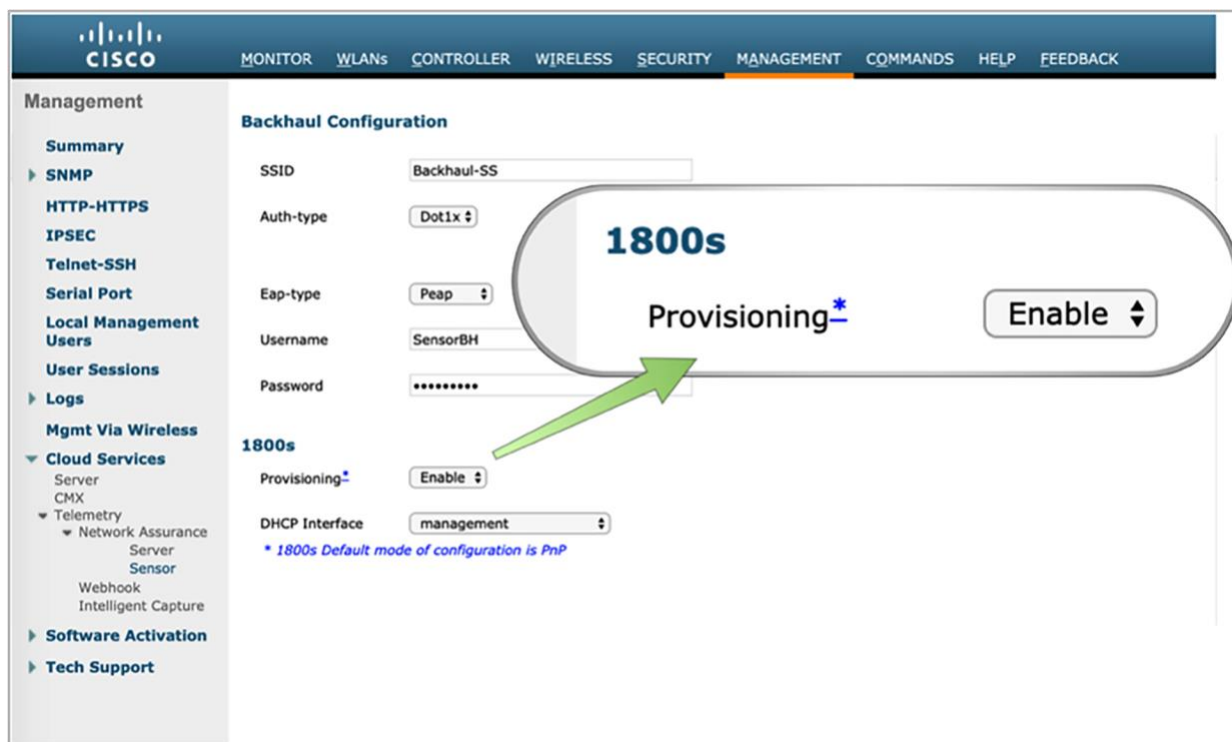

Figure 12.
1. Create a backhaul SSID with the predefined CiscoSensorProvisioning name (**Figure 12.**)